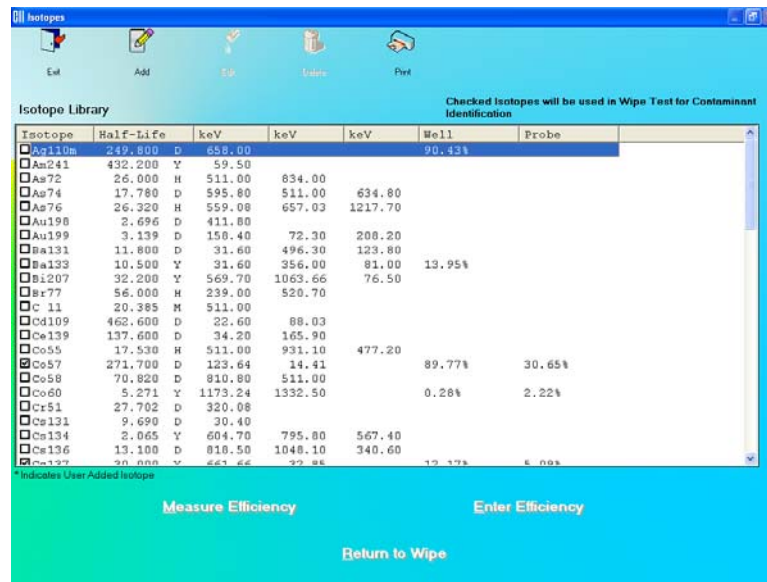

Figure 8-4 Isotope Library Screen
1. Click the  icon to view the Isotope Library. Figure 8-4 Isotope Library Screen will appear. A list is shown of isotopes with their half-lives, peak energies and the Well and Probe efficiencies for each isotope, if available.
- To select the isotopes to be detected in the Wipe Test, click in the check box to the left of the isotope name in the **Isotope Library** box on Figure 8-4 Isotope Library Screen as shown. A check should appear in the check box to indicate the isotope has been selected. To deselect an isotope, click in its check box again and the check will be removed from the check box. Select all the isotopes you would like to be identified by the Wipe Test.